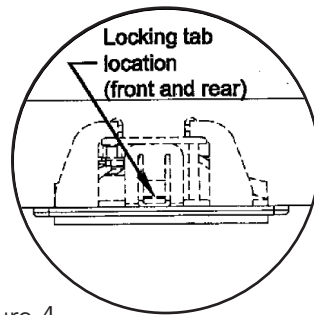
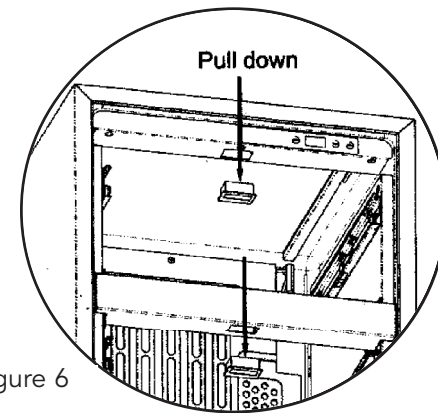

Figure 4
Figure 6
3. Remove old lights. Use 2 small, thin bladed screwdrivers or putty knives to press in the locking tabs on the lens housing. (Figures 4 and 5). With the locking tabs depressed, pull downward (Figure 6), the light housing will pop free. Disconnect the wire lead by pulling straight out from the connector. Connect wire lead to new light and re-install into metal housing. The light will only fit in the housing with the locator tabs pointing to the front of the unit.